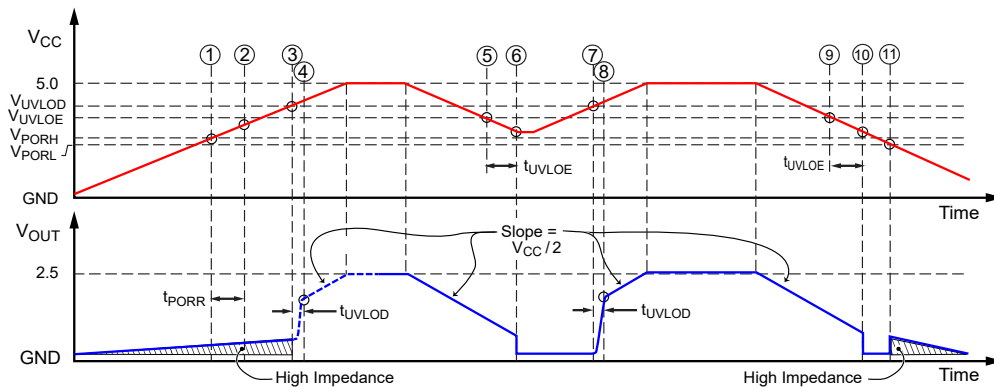
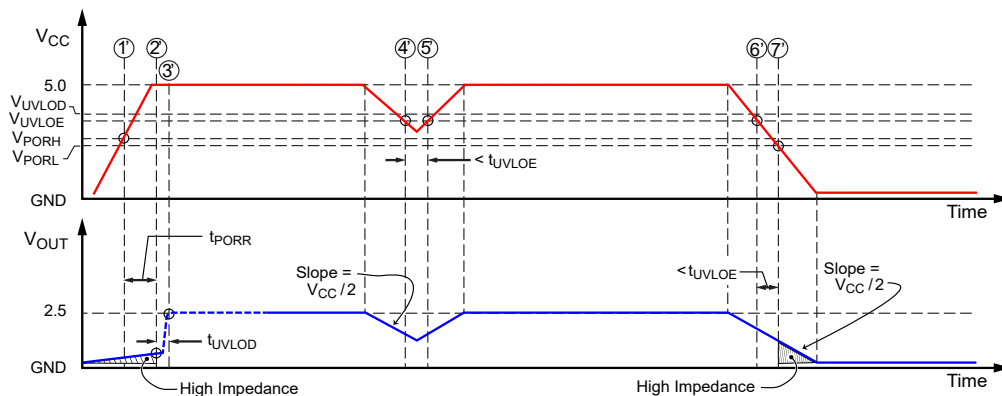

Figure 43: POR and UVLO Operation—Slow Rise Time Case—5 V Variant
Figure 44: POR and UVLO Operation—Fast Rise Time Case—5 V Variant
**Power-Up.** At power-up, as  $V_{CC}$  ramps up, the output is in a high-impedance state. When  $V_{CC}$  crosses  $V_{PORH}$  (location [1] in Figure 43 and [1'] in Figure 44), the POR release counter starts counting for  $t_{PORR}$ . At this point, if  $V_{CC}$  exceeds  $V_{UVLOD}$  [2'], the output goes to  $V_{CC}/2$  after  $t_{UVLOD}$  [3'].